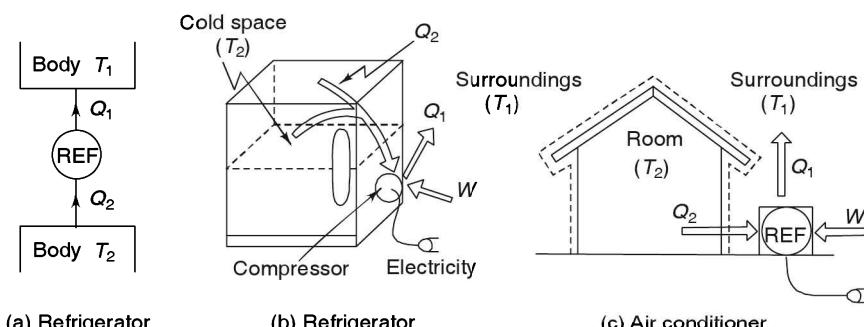

FIGURE 3.4 Working of a refrigerator and an air conditioner.
In a domestic refrigerator and an air conditioner, heat (Q_2) is removed from the refrigerator or room as shown in Figure 3.4 by supplying work (W) and heat (Q_1) is rejected to the surroundings.